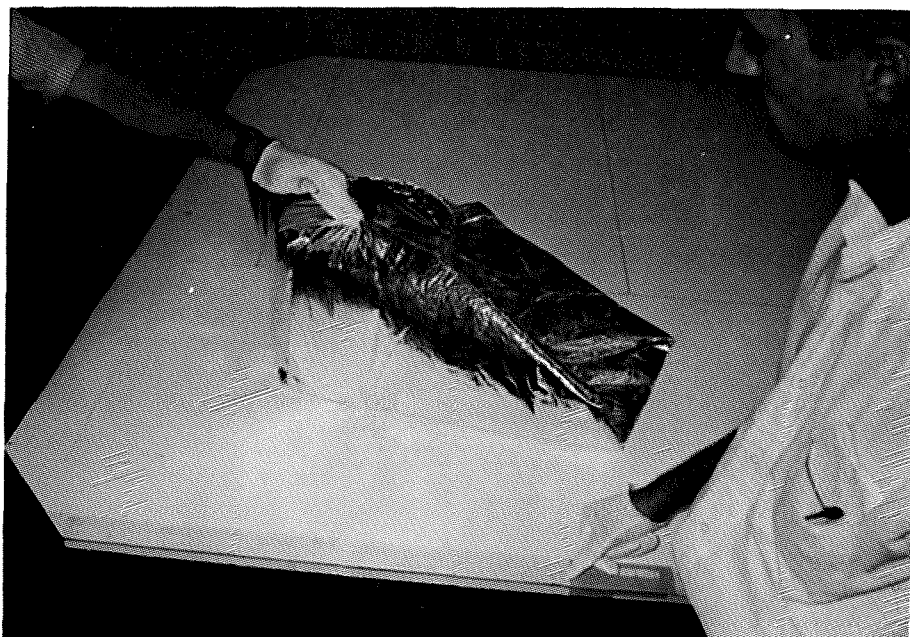

FIG. 7
STEP 6. Bring up an adjacent hexagon point in same manner. Form pleat in excess material and tuck in as shown in Figure 6. Fold over top and again hold. External fold line should be vertical as seen in Figure 7.